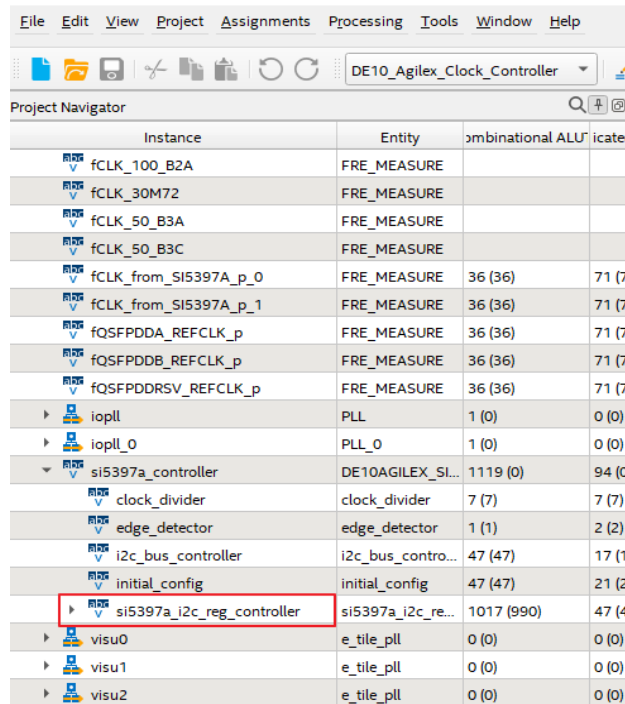
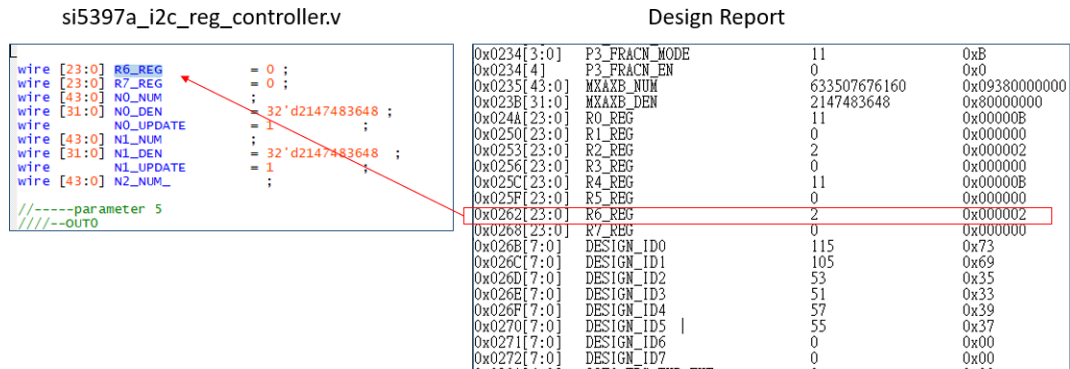

Figure 5-8 Sub-Module file "si5397a_i2c_reg_controller.v"
Figure 5-9 Modify Si5397 Control IP Base on Design Report
- Open Si5397 control IP sub-module "si5397a_i2c_reg_controller.v" as shown in Figure 5-8, refer to Design Report parameter to modify sub-module corresponding register value (See Figure 5-9).